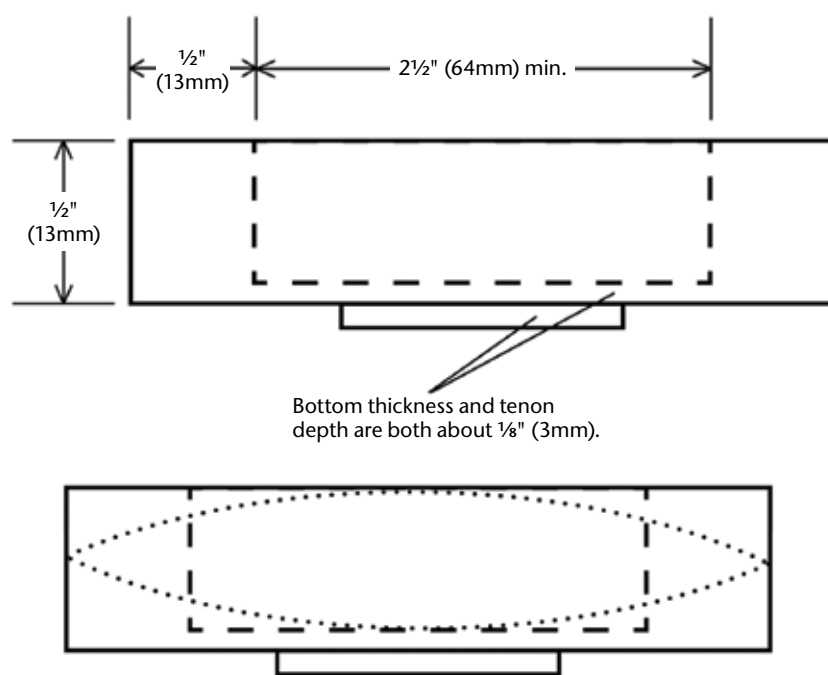

Figure 1. Cross section of ornament blank showing lens-shaped profile (dotted lines).
*Figure 1* shows a cross section of the turning as I make it. When turning
Turning epoxy with a negative-rake scraper can get messy, but it is fun. I turn from the center to the edge with light cuts. Though *Figure 1* shows the ornament having a double-convex, or lens, shape, you can vary the profile greatly. I have made ripples like a stone in water and it looks great, but it is a little harder to sand. For Christmas ornaments, making the epoxy concave will make them lighter and also looks great.